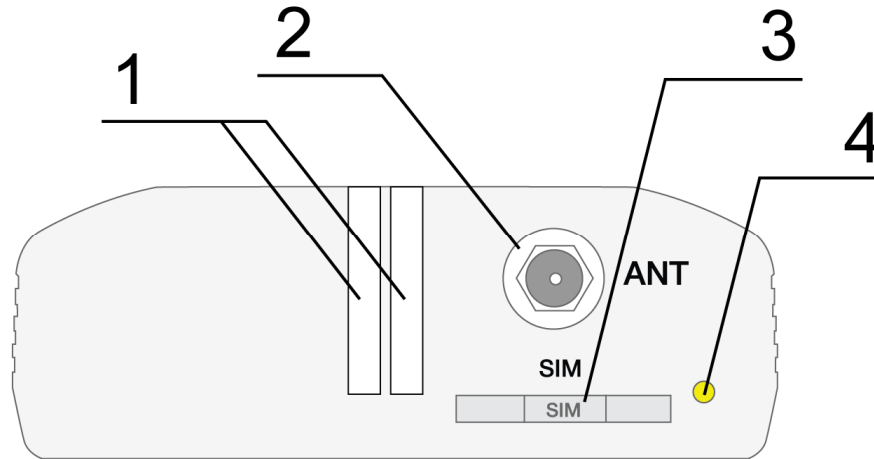
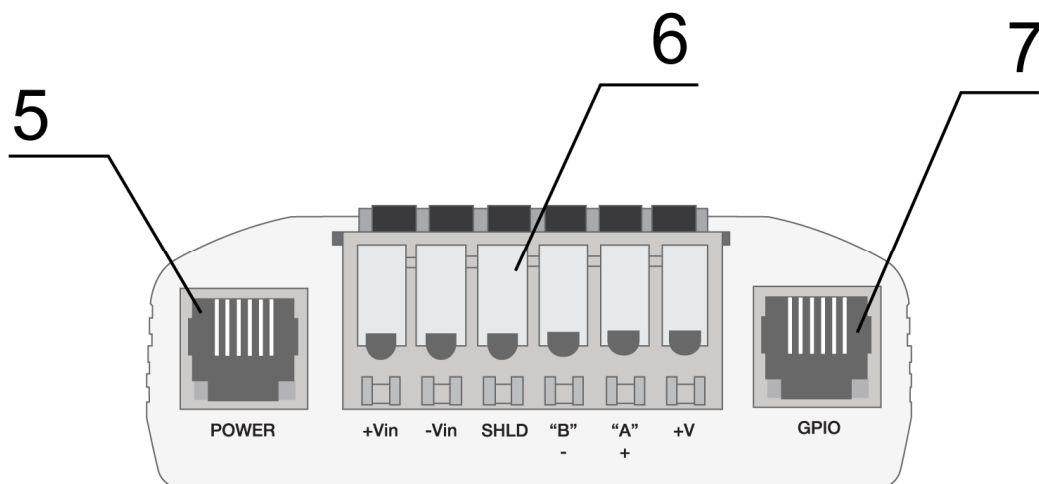

Fig. 2.4.1. Front view
Fig. 2.4.2. Back view
TC65i-485GI modem is a compact device in an aluminum case. Its appearance is displayed on Fig. 2.4.1 and Fig. 2.4.2.
The numbers on Fig. 2.4.1 and Fig. 2.4.2 stand for:
- Eject the SIM-tray by pressing the SIM-card tray ejector button (Fig.2.4.1);